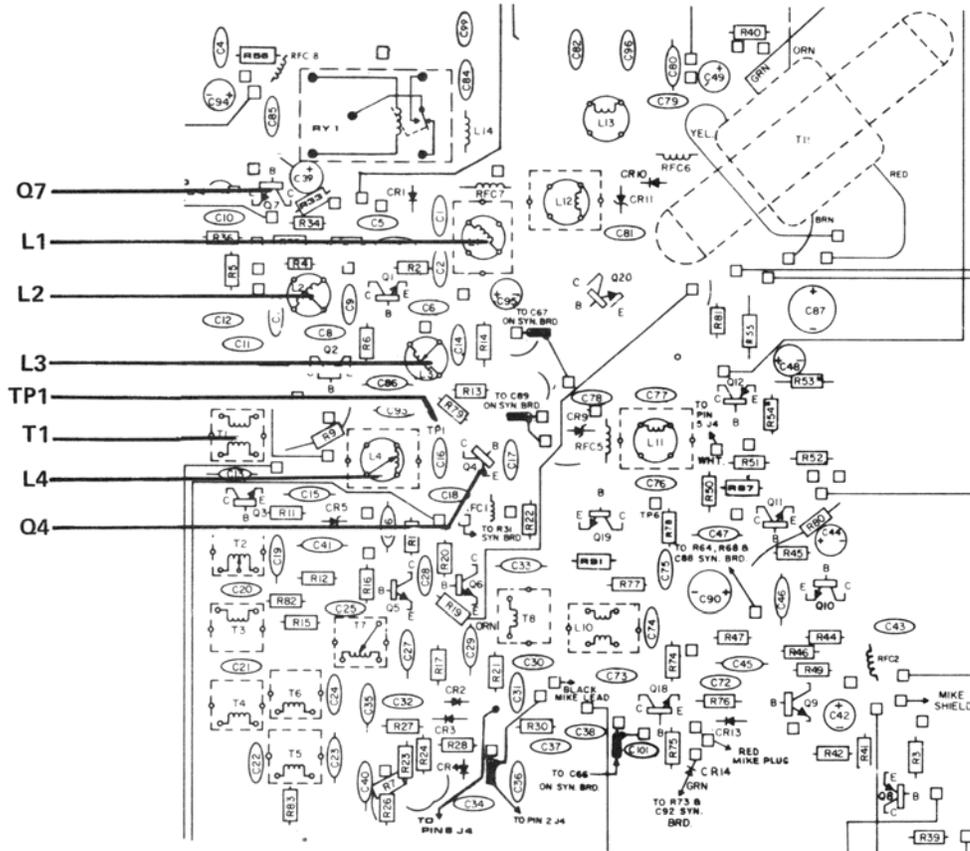

Figure 4-2 Test Point and Adjustment Locations for Receiver Alignment
This section assumes that the Synthesizer Output Board is operating properly (Section 3.5.2). If not, refer to Section 4.5.1 for 1st local oscillator adjustment and Section 4.4.1 for 2nd local oscillator adjustment. See Figure 4-2 for receiver test point and adjustment locations.
- a. Connect the DC voltmeter to TP1. See Figure 4-2.